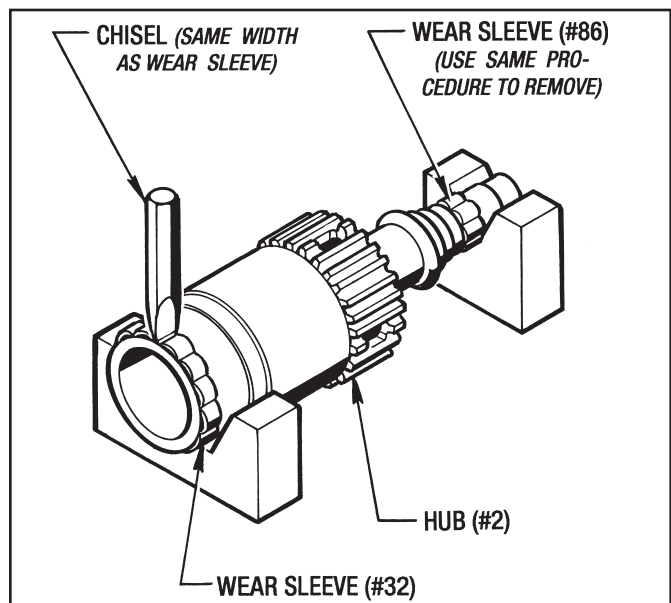

Figure 7.3 - Removing Wear Sleeves
3. Check the Wear Sleeves (#32) and (#86). If they are damaged, remove them with the following procedure. (See Figure 7.3)